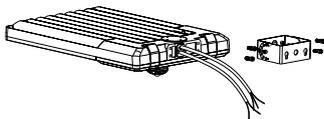

Figure 5
3. YOKE MOUNTING (YM)
Step 1: Remove the bracket mounting screws on the fixture and run the wires through the bracket. (Figure 5)